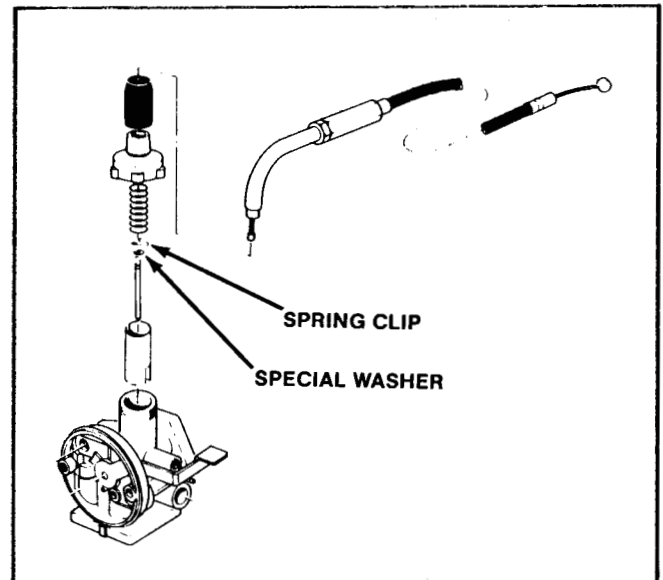

Figure 26
3. Install the special washer and spring clip as shown in Figure 26. Push the needle assembly into the throttle valve and line up the slots in the special washer and the throttle valve.